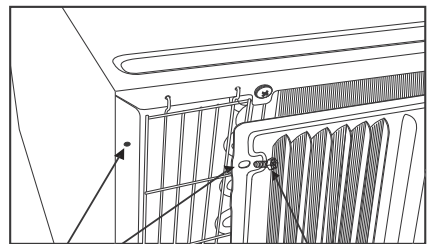

Fig. 3
4. If the unit has not been predrilled (some models), carefully drill 4 – 1/8" holes through the grille and into the side flange of the unit approximately 1 1/2" to 2" from the top and bottom as in Fig. 2 & Fig. 3. (Be careful not to drill into the copper heat exchanger coil)